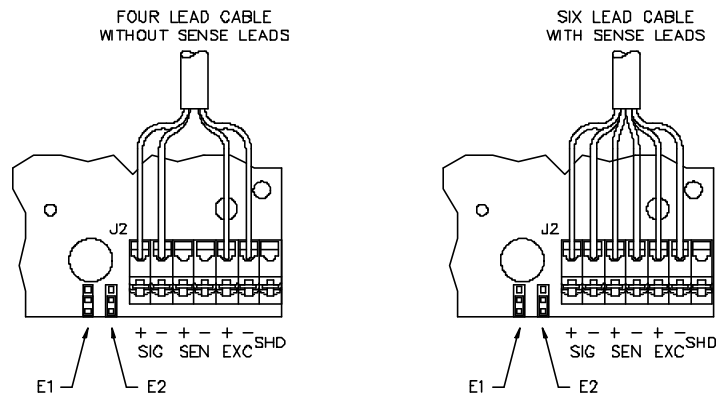
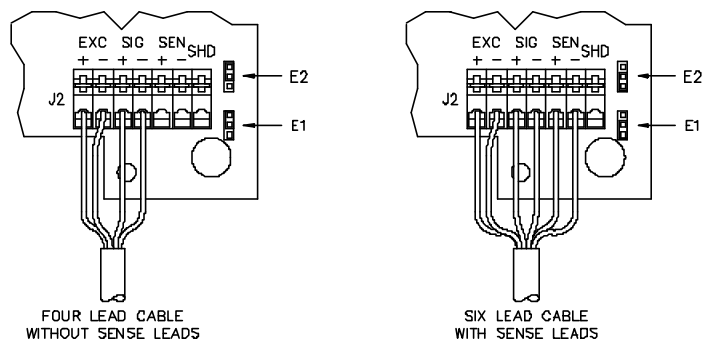

Figure 2-16: 460 Series Load Cell Connections
Figure 2-17: 660 Series Load Cell Connections
9. Insert the lead in place, as shown in Figure 2-16 for a 460 Series indicator or Figure 2-17 for a 560 Series or 660 Series controller.